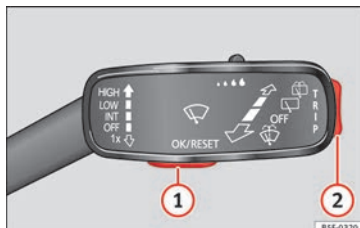

Fig. 37 Windscreen wiper lever: control buttons.
The driver information system is controlled with the multifunction steering wheel buttons »» Fig. 38 or with the windscreen wiper lever »» Fig. 37 (if the vehicle is not equipped with multifunction steering wheel).
- If a message or vehicle pictogram appears, press button »» Fig. 37 (1) on the windscreen wiper lever or button **OK** on the multifunction steering wheel »» Fig. 38.
- If managed from the windscreen wiper lever: to display the main screen »» page 27 or to return to the main menu from another menu hold down the rocker button »» Fig. 37 (2).
- Press the rocker switch »» Fig. 37 ② on the windscreen wiper lever up or down or turn the thumbwheel of the multifunction steering wheel »» Fig. 38 until the desired option appears marked on the menu.
- To consult the submenu option, press button »» Fig. 37 ① on the windscreen wiper lever or button  on the multifunction steering wheel »» Fig. 38.
- Mark or confirm the selection with button »» Fig. 37 ① on the windscreen wiper lever or button  on the multifunction steering wheel »» Fig. 38.
- *In vehicles without multifunction steering wheel:* Press the rocker switch on the windscreen wiper lever » Fig. 37.